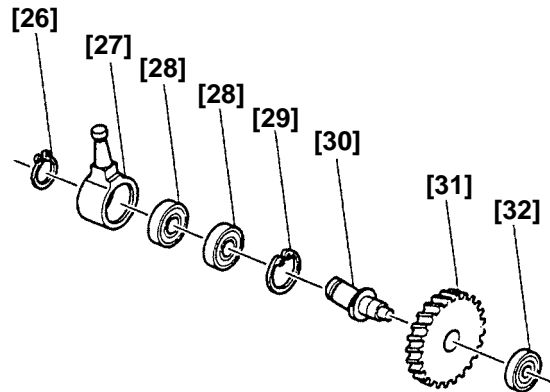

Fig. 5
(4) Removal of Second Shaft (B) [30] (Fig. 5)